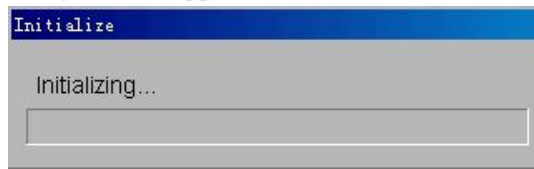

Figure 1-19
- 15) Click **Build Database**. Figure 1-19 appears. Click **OK** button to confirm.